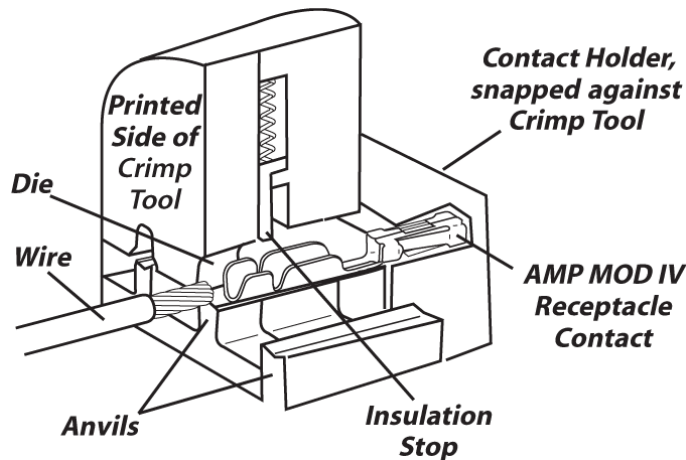

Figure 2-13. Crimp Tool – Cutaway View
3. Close the tool one click so the anvil holds the contact in place (Figure 2-13).